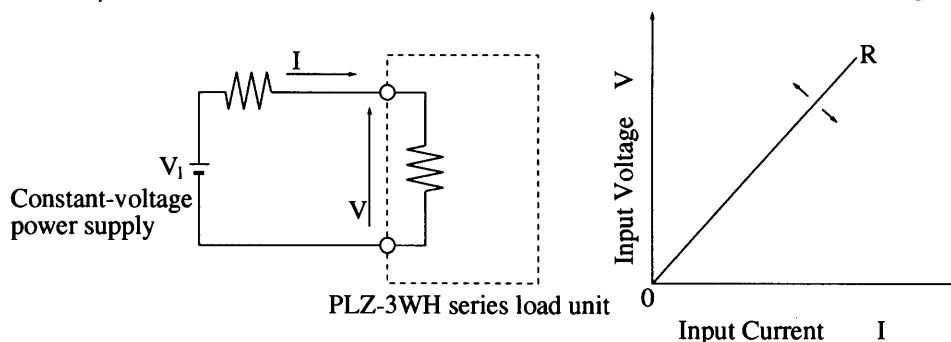

Fig. 4.3-2
■ Basic operation of CR mode (see Fig. 4.3-2)